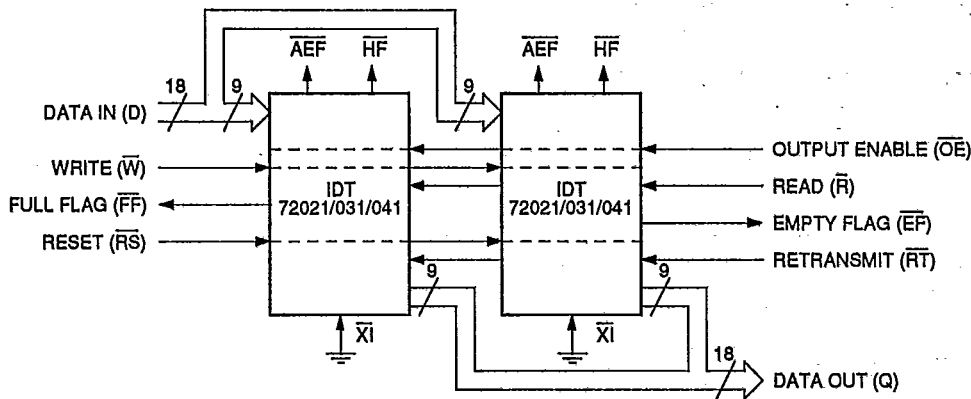

Figure 14. Block Diagram of 1K/2K/4K x 18 FIFO Memory Used In Width Expansion Configuration
device. Figure 14 demonstrates an 18-bit word width by using two IDT72021/031/041 devices. Any word width can be attained by adding additional IDT72021/031/041s.
2. For Flag detection see section on Width Expansion and Figure 14.